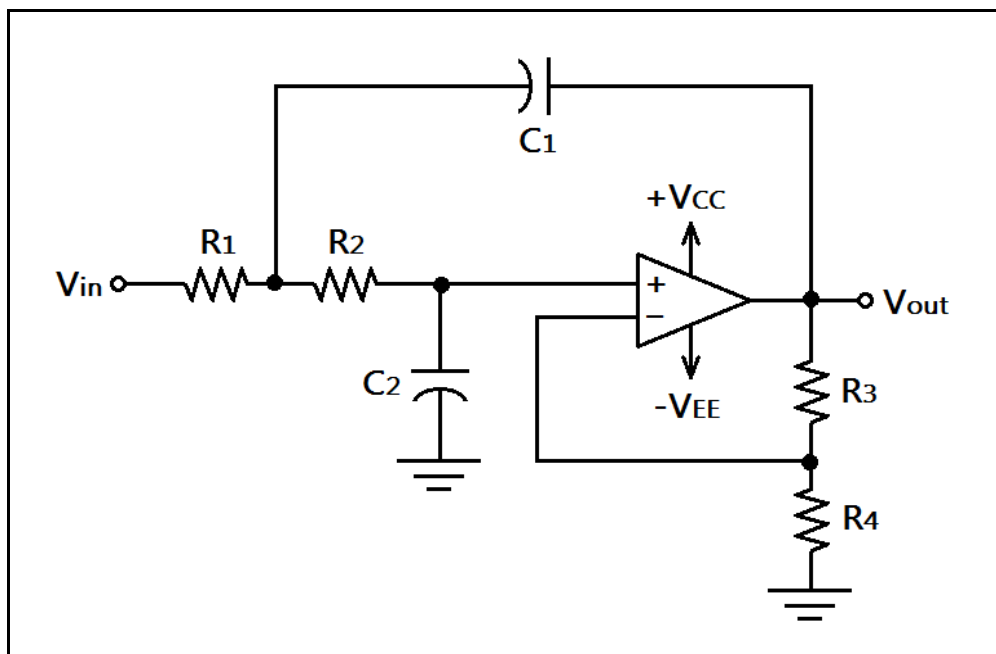
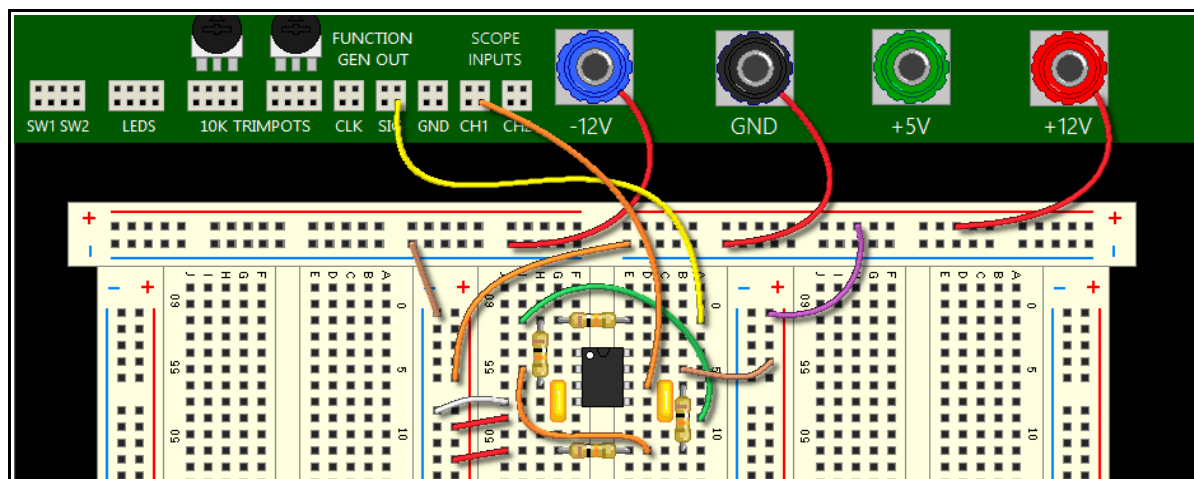

Figure 16: A Sallen-Key low pass filter.
Figure 17: Sallen-Key low pass filter pictorial diagram.
7. Power off the trainer and dismantle the circuit. We will now make a low-pass Sallen-Key 2nd order filter. This filter will have a cutoff frequency around 150 Hz. Use 10 K Ω resistors for R_1 , R_2 , R_3 , and R_4 , and 0.1 μ F for C_1 and C_2 . Wire the circuit shown in the schematic in **Figure 16**, and use the pictorial diagram in **Figure 17** as a reference for breadboarding.